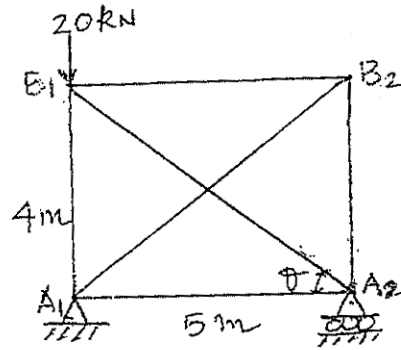

Fig. Q. 11(a)
11. a) Compute the forces in the members of a pin-jointed plane frame shown in Fig. Q. 11(a) by flexibility matrix method. The flexibility for each member is 0.03 mm/kN.